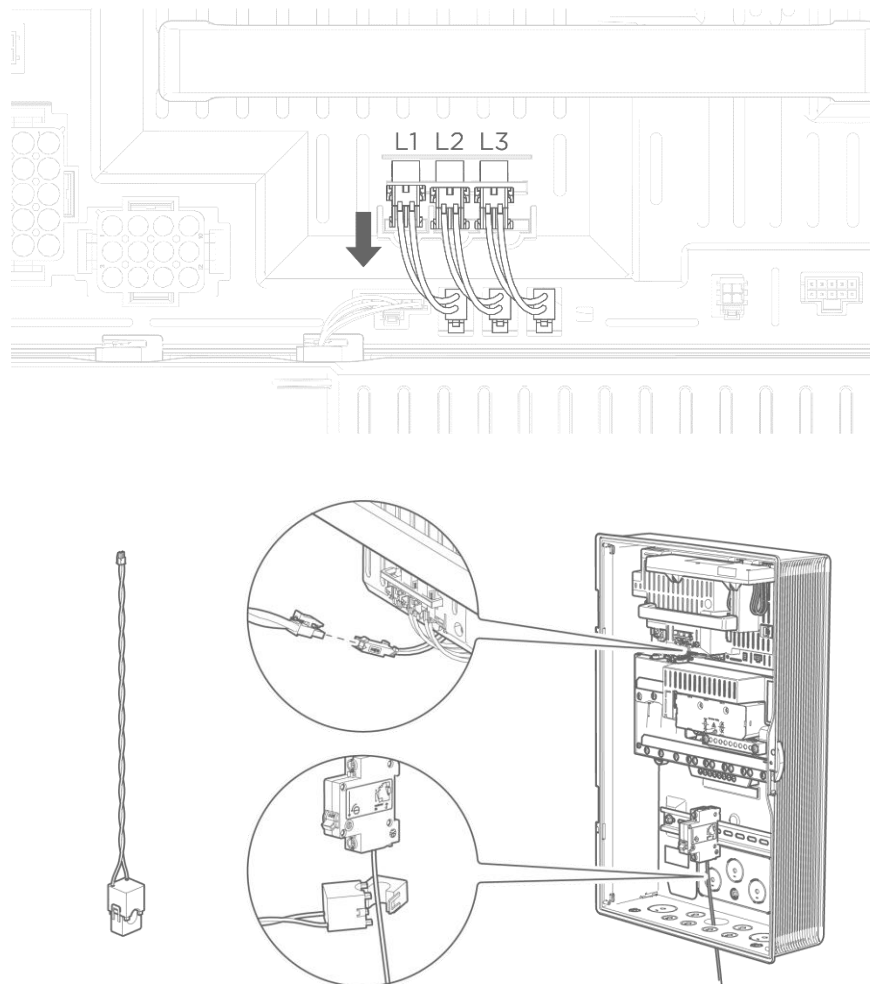

Figure 48: Installing Tesla Solar CTs
1. Remove the solar CT connector on the Backup Gateway from its hold-down point in the Backup Gateway and plug in the solar CT harness (Figure 48).